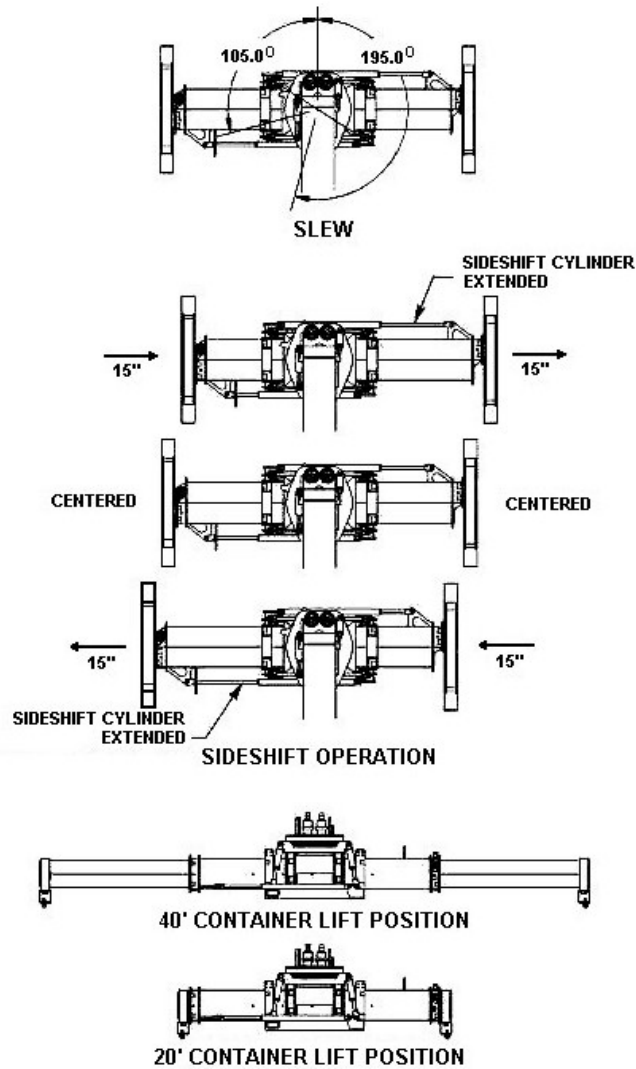

Figure 3-57
(1) Press left side of rocker switch to rotate load clockwise.
(2) Press right side of rocker switch to rotate load counterclockwise.
d. Use tophandler and forklift sides shift button (see Figure 3-57).
(1) Press right button to shift load to the right.
(2) Press left button to shift load to the left.
(3) Press right button and multiple functions trigger button to widen tophandler from 20 to 40 feet or to open forklift tines, if forklift kit is installed.
(4) Press left button and multiple function trigger button to close tophandler from 40 to 20 feet or to close forklift tines, if forklift kit is installed.